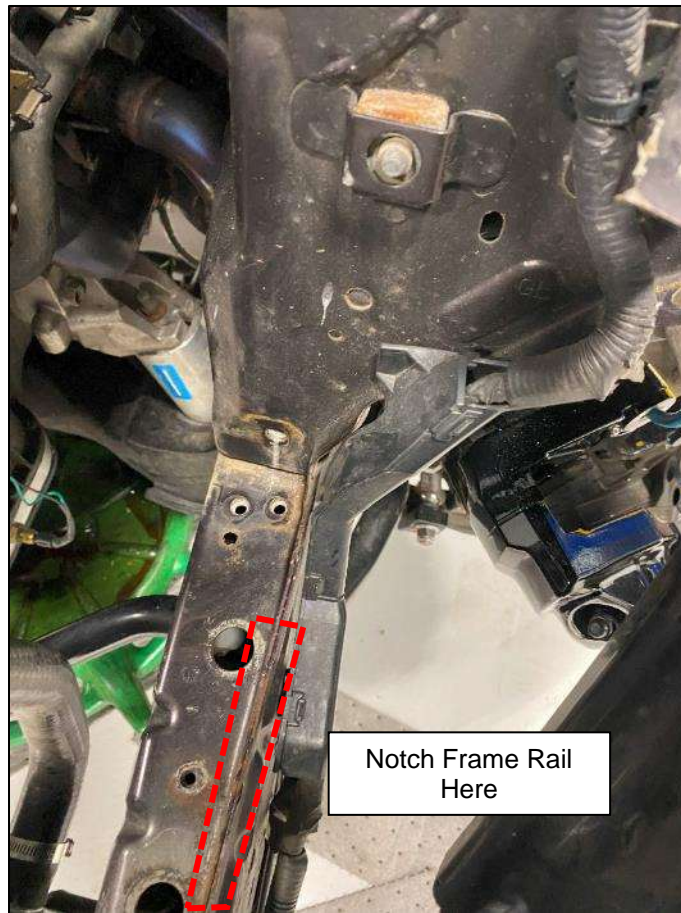

Figure 26
17. Depending on the condition of your Motor Mounts, the Driver Side Frame Rail may need to be notched to clear the Blower. If you have solid Motor Mounts, this most likely will not be needed. If you decide to notch the Frame Rail, use a Body Saw or Cut Off Wheel to cut the Frame Rail as shown below. *Figure 26.*